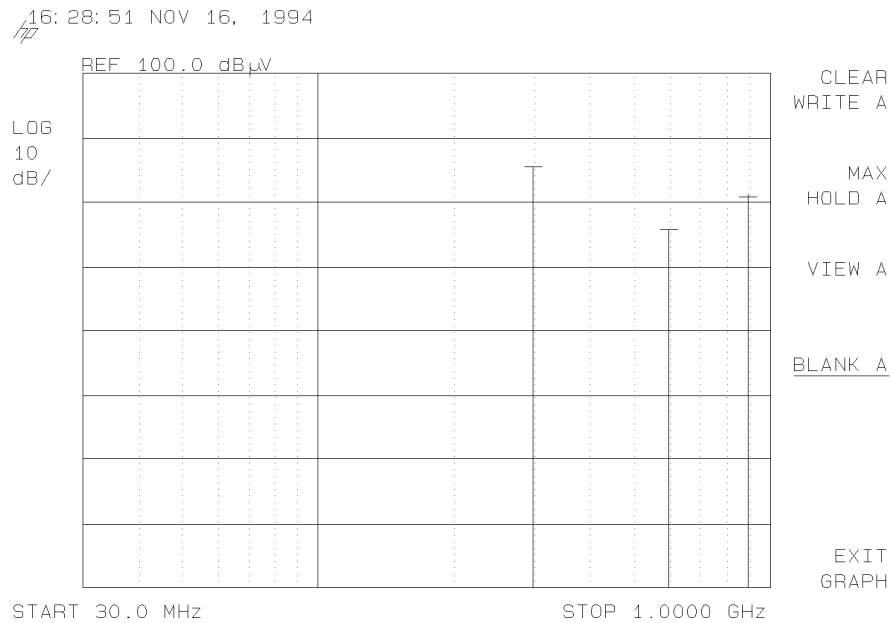

Figure 1-5. Displaying the List as a Log Graph
11. Press **SAVE LOG GRAPH** to view the signals in the list on a log graph. To clear the display's active function area, press **(ENTER)** key (front-panel's lower-right corner). Refer to Figure 1-5.